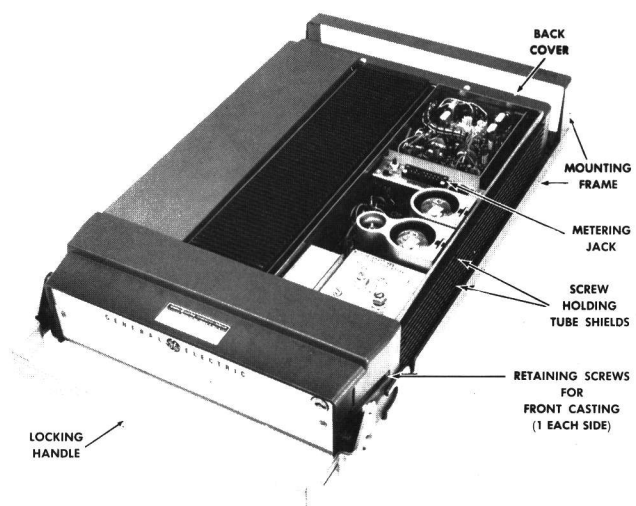

Figure 3 - Top Cover Removed
1. Loosen the two retaining screws in the front casting (see Figure 3) and pull casting away from the system frame.